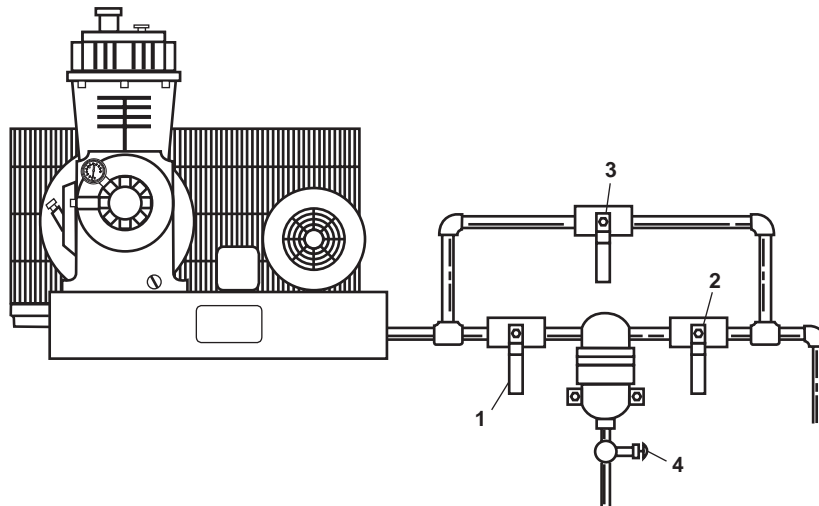

Figure 5. Dryer Valve Locations
11. CLOSE valves CA-1 and CA-2, COV COMPR DISCH (figure 5, item 1), and CA-87 and CA-88, COV COMPR DISC (figure 5, item 2).
12. Ensure that valves CA-89 and CA-90, COV COMPR DISCH (figure 5, item 3), and CA-93 and CA-94, MOISTURE SEP DR (figure 5, item 4) are CLOSED.